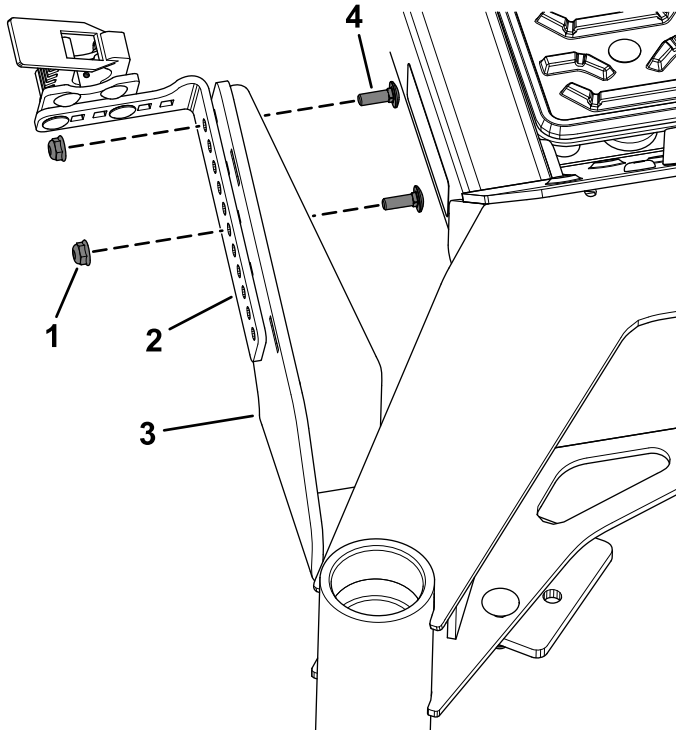

Figure 7
2. Secure the trimmer mount bracket assembly to the lower trimmer mount assembly using 2 carriage bolts (1/4 x 3/4 inch) and 2 flange nuts (1/4 inch) as shown in Figure 7.